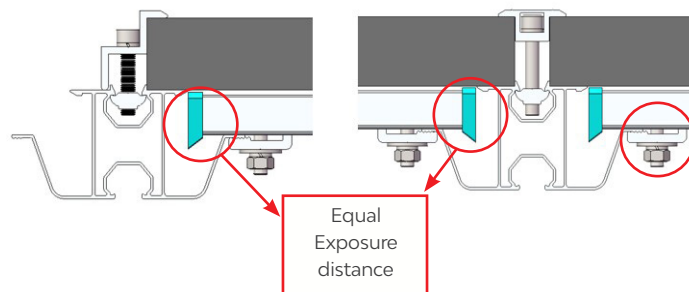

Figure 27
Note: The distance of the two ends of Gutter over the Rail 60 is equal as shown in Figure 27.
5.6.5 After the last step, adjust Corrugated Clamp to engage the corrugated surface of Rail 60 and the clamp are meshed, then lock the Corrugated Clamp as shown in Figure 27.